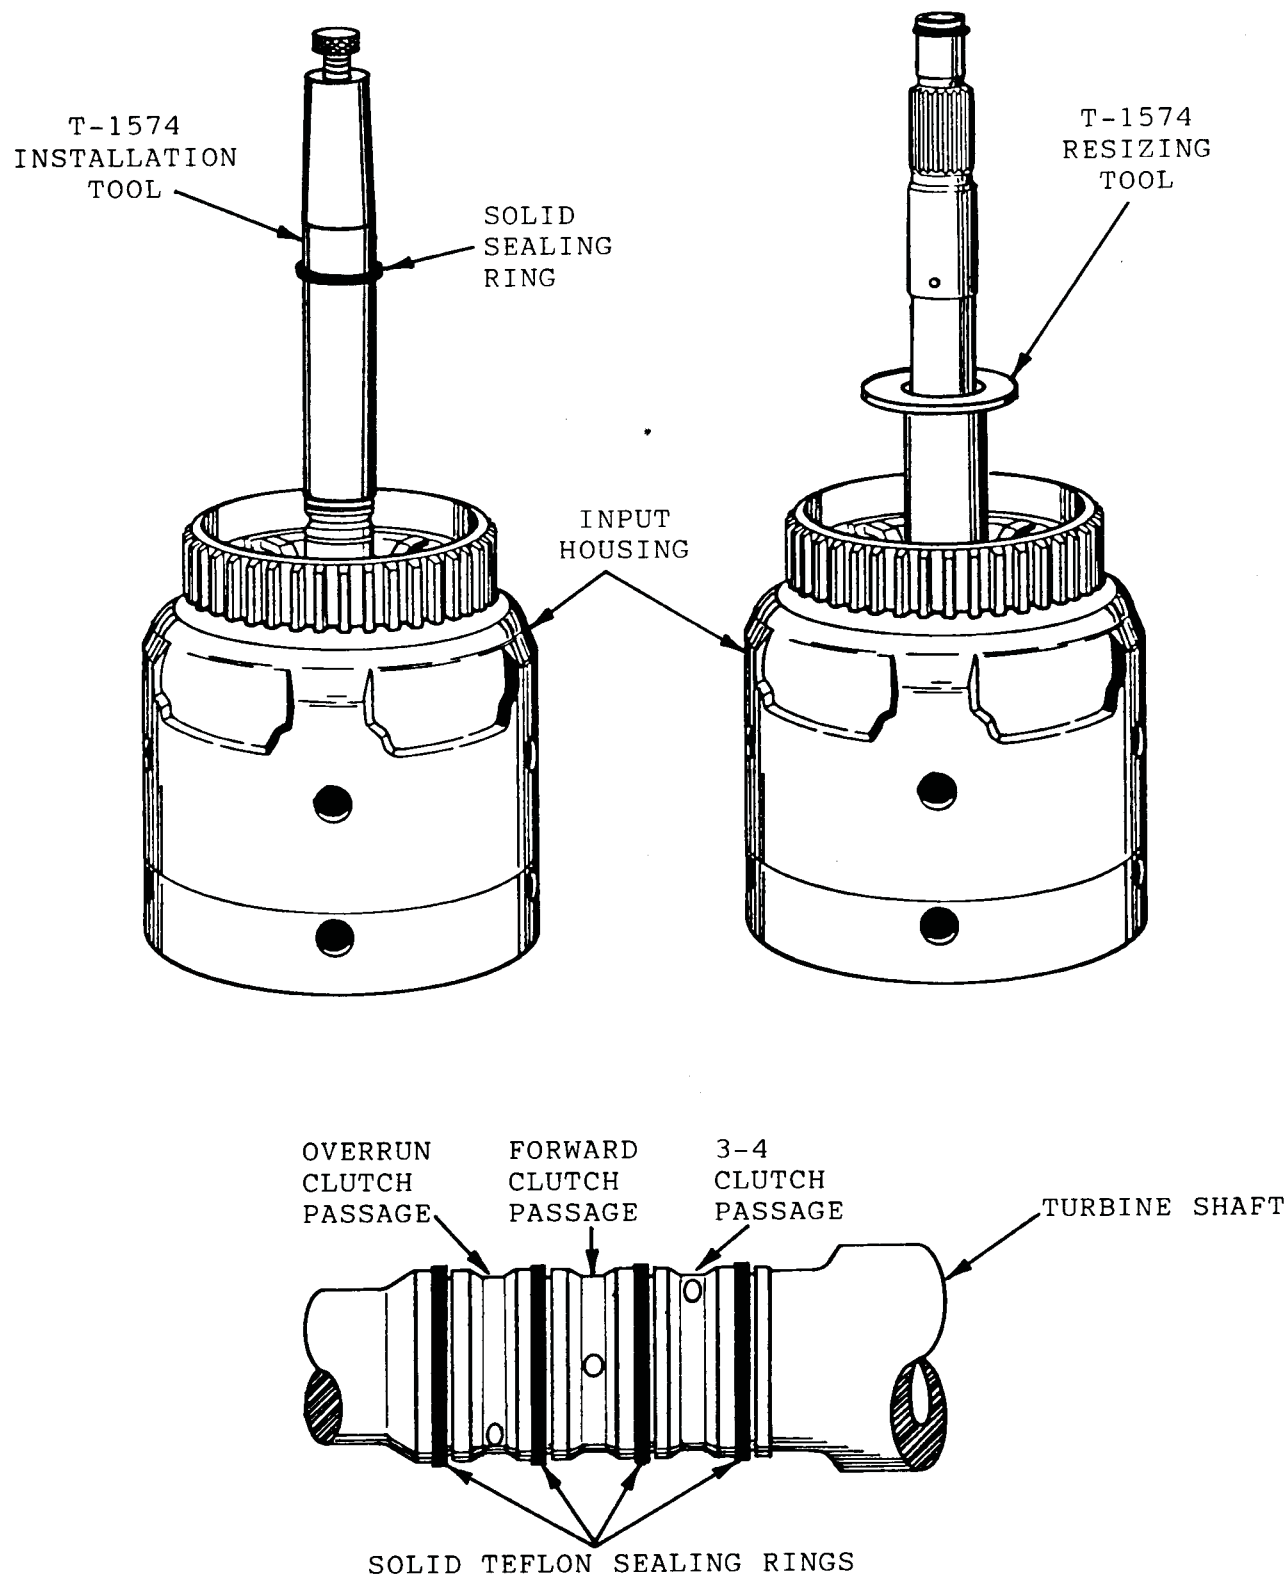

Figure 90
2. Install the four (4) turbine shaft sealing rings onto the turbine shaft beginning with the bottom ring.
4. Solid rings will require an installation tool, and resizing tool (See Figure 90).